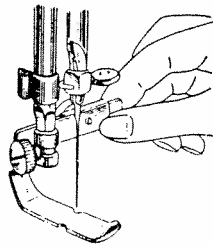

Fig. 82
**CORDING.** Fold bias strip of fabric over cord. Loosen thumb screw and set foot so needle is centered in needle hole. Machine baste cord in place (Fig. 82~83).